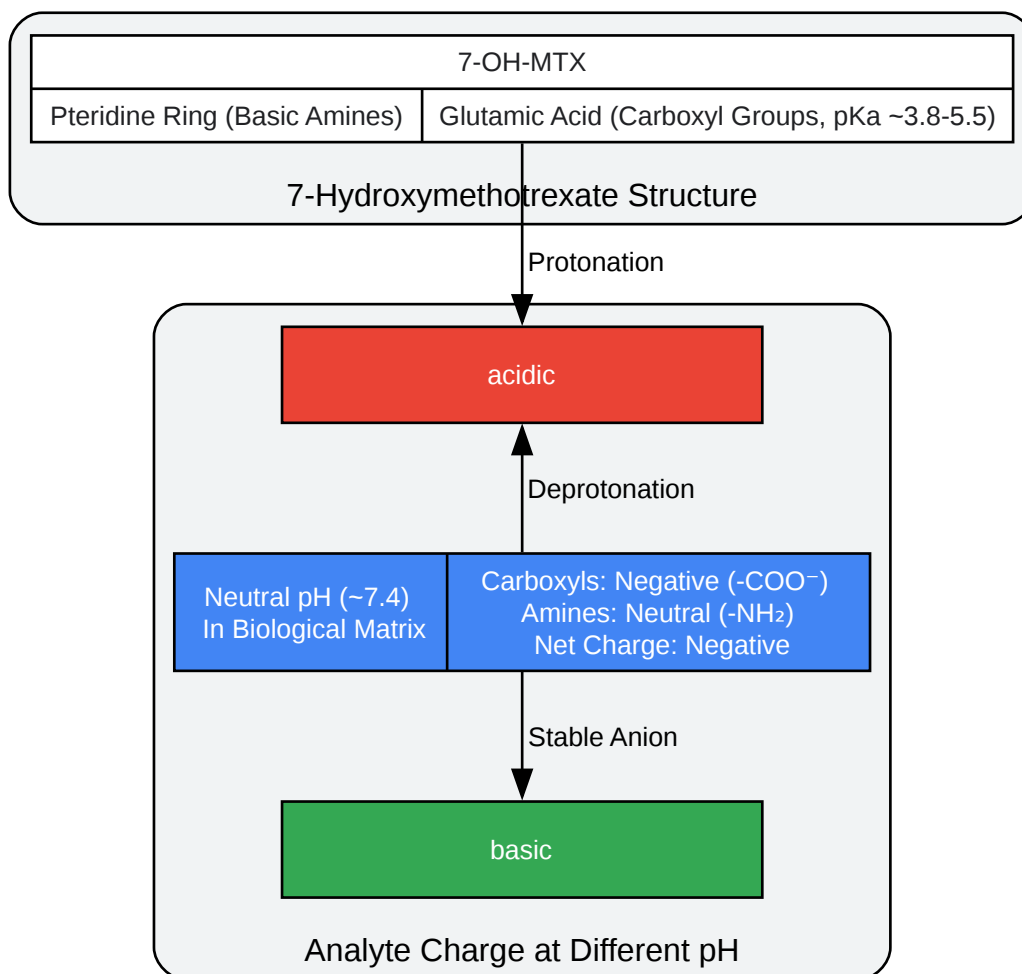

Figure 1. pH-Dependent Ionization of 7-OH-MTX
- **Incorrect Sample pH:** As shown in Figure 1, 7-OH-MTX is negatively charged at neutral pH. A charged, polar molecule will have very poor affinity for a non-polar C18 reversed-phase sorbent.